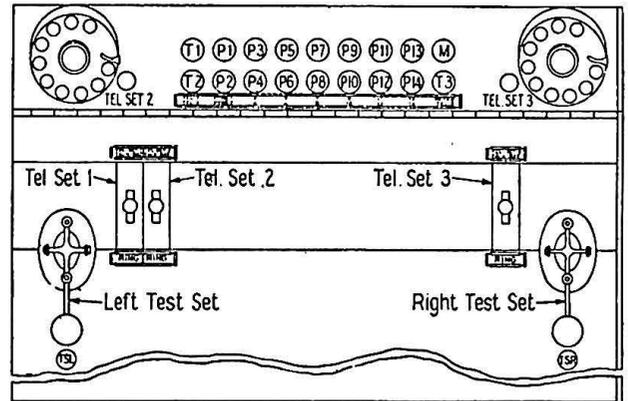

Fig. 1.—Arrangement of Apparatus on the Keyshelf
2.01 Figure 1 shows the arrangement of the cords and keys on the keyshelf. For convenience in describing the operating procedure, the cords and plugs have been given a letter designation. The first two cords on the left designated "T1" and "T2" are connected to the operator's telephone set circuits No. 1 and 2, respectively. The next fourteen cords from the left are available for connection to fourteen monitoring printers designated "P1," "P2," etc., to "P14," the odd numbers being in the back row and the even numbers in the front row. The front cord on the extreme right designated "T3" is connected to the operator's telephone set circuit No. 3.